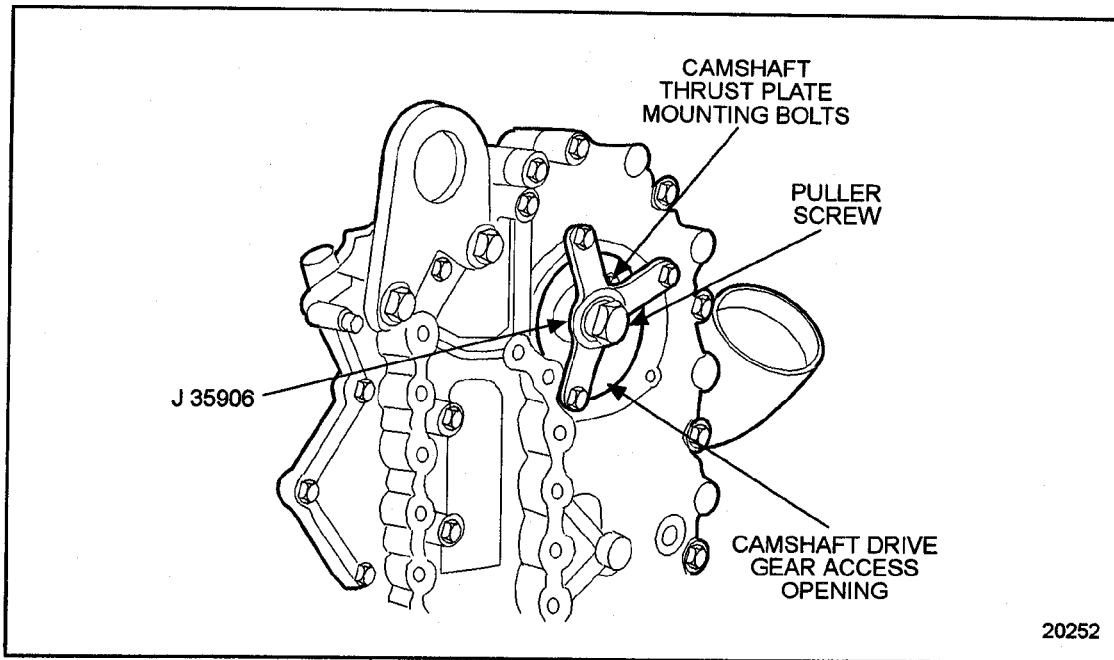

Figure 1-339 Camshaft Thrust Plate Remover
11. Install J 35906, to the camshaft drive gear access opening, using three of the access cover bolt holes. Engage the puller screw in the threads of the camshaft drive gear hub, until the screw is tight. See Figure 1-339.